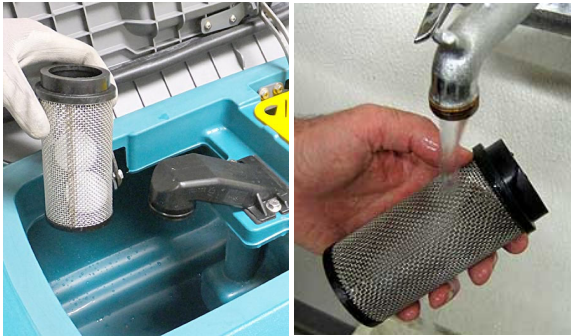

FIG. 81
3. Remove and clean the float shut-off screen (Figure 81).